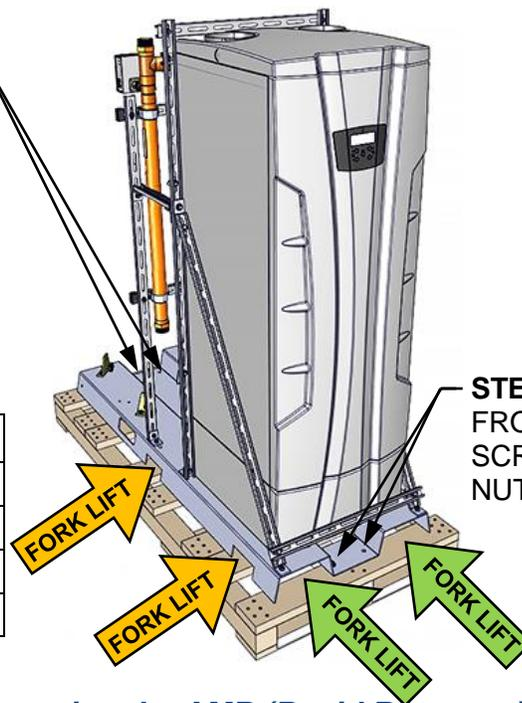

Figure 3-8: Transporting the AMR (Rapid Recovery) Water Heater
1. Remove the two (2) 3/8-16 hex cap screws, washers, and nuts attaching the front of the assembly skid to the pallet (Figure 3-8).
2. Remove the two (2) 3/8-16 hex cap screws, washers, and nuts attaching the rear of the assembly skid to the pallet (Figure 3-8).
3. Once the assembly is disconnected from the pallet, the unit may be transported using a fork lift inserted into the skid, front or rear, or at the sides, as indicated in Figure 3-8.